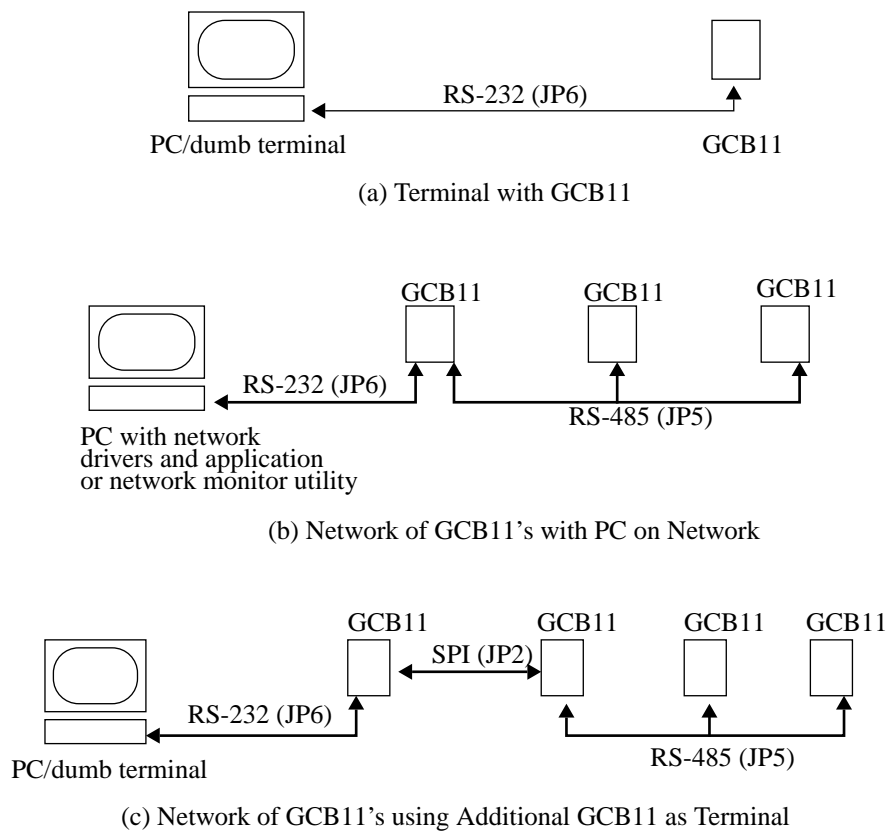

FIGURE 6.1 Methods of Communication with the GCB11
There are three different methods which can be used to communicate with the GCB11, as shown in Figure 6.1. Each of these are supported by the hardware and software supplied with the GCB11. Note that the GNET networking software is an option that must be purchased separately.
In the method shown in Figure 6.1(a) the SCI of the GCB11 is used to communicate with a dumb terminal through an ordinary RS-232 connection. This same configuration can also be used for point to point communication between GCB11s.
The method shown in Figure 6.1(b) depicts the GCB11 being used in a communications network. By using the appropriate communications software on the PC, it is possible to use the PC as a network console. In addition, it is possible to write applications for the PC such that they can communicate to any other node on the network. When used in this manner the PC is just another node on the network.
Finally, as shown in Figure 6.1(c), it is possible to use an additional GCB11 as a terminal for a GCB11 by using the SPI capabilities of the M68HC11. By doing this you can then use any dumb terminal and physically connect directly to a GCB11 when the SCI on that GCB11 is being used for the network connection.
- SCI used for normal asynchronous communications (Figure 6.1(a)).
- SCI used for network communications (Figure 6.1(b)).
- SPI connected to another GCB11 (Figure 6.1(c)).
As shown in Figure 6.1(a), this mode of communication is normally used to connect a dumb terminal to the GCB11. Although the SCI is typically used as a console for screen and keyboard I/O, it is possible to have applications on a PC or another GCB11 communicate through this channel.
The SPI is a flexible communications sub-system and can be used for a variety of applications. When configured as shown in Figure 6.1(c), an additional GCB11 and a dumb terminal become the console to another GCB11. By doing this it is possible to communicate to a particular GCB11 through the SPI without impacting or loading down the SCI or the RS-485 network. The companion disk contains an example program which provides this functionality. Although the preferred method for attaching a console to a node in the network is through the network, using an additional GCB11 and the SPI can prove quite useful when network bandwidth is critical or when the network may be compromised or unreliable.
The GCB11 is designed to be used in a multi-drop RS-485 network as shown in Figure 6.1(b) and Figure 6.1(c). The network uses a master/slave configuration and the 9-bit communications mode of the SCI to reduce the over-